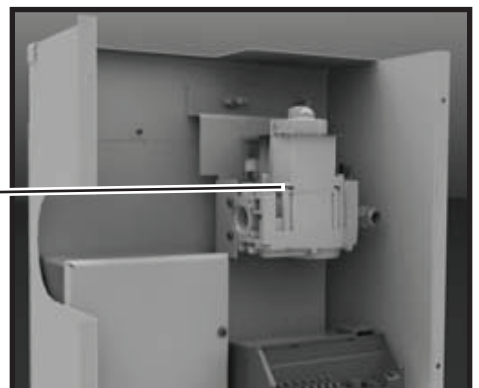

Figure 27: Gas inlet.
6. Connect the gas supply to the valve (Figure 27).
1. Connect the gas supply to the valve (Figure 27).